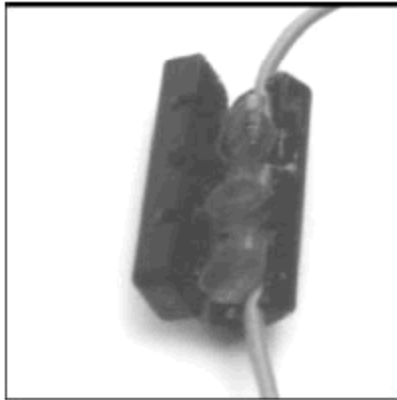

Figure 2.16 Spliced Cables in a Splice Enclosure
9. Tuck the Scotchloks into a splice enclosure and route the cables through the cutouts at the ends of the splice enclosure (Figure 2.16).